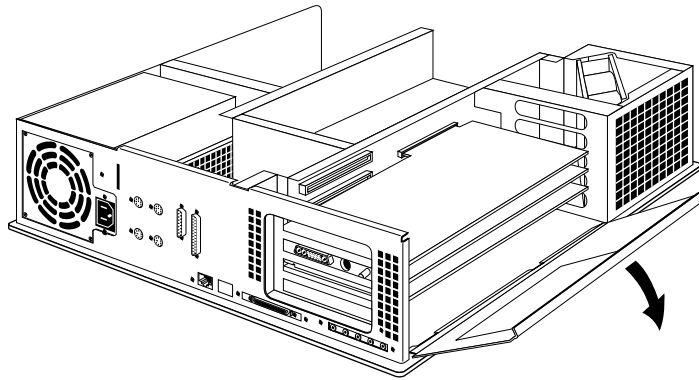

Figure 3-4 Opening the metal panel in front of the slots
2. Open the metal panel in front of the slots by pulling up on it and lowering it, as shown in Figure 3-4.